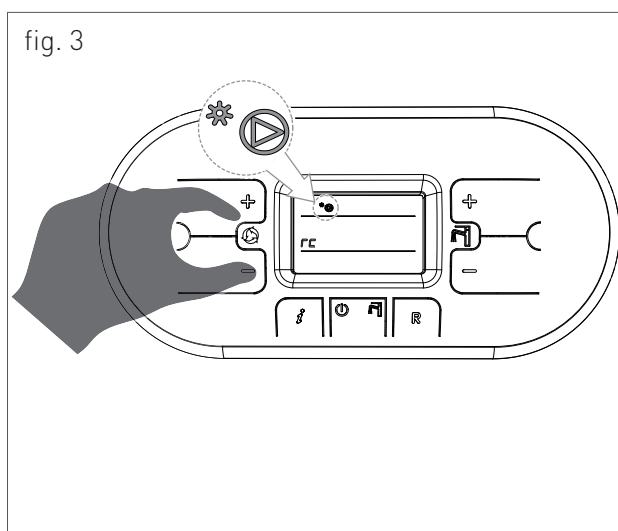

fig. 3
- › adjust the setting of the return temperature by pressing **+** and **-** (fig. 3). The activation of the pump is displayed onto the control panel by means of the pump  symbol.
- › Set the temperature setpoint of the D.H.W. tank by pressing \oplus and \ominus the sanitary \mathbb{R} (fig. 3).
- › after removing the crankcase, connect the items below to the electronic board (see fig. 3):